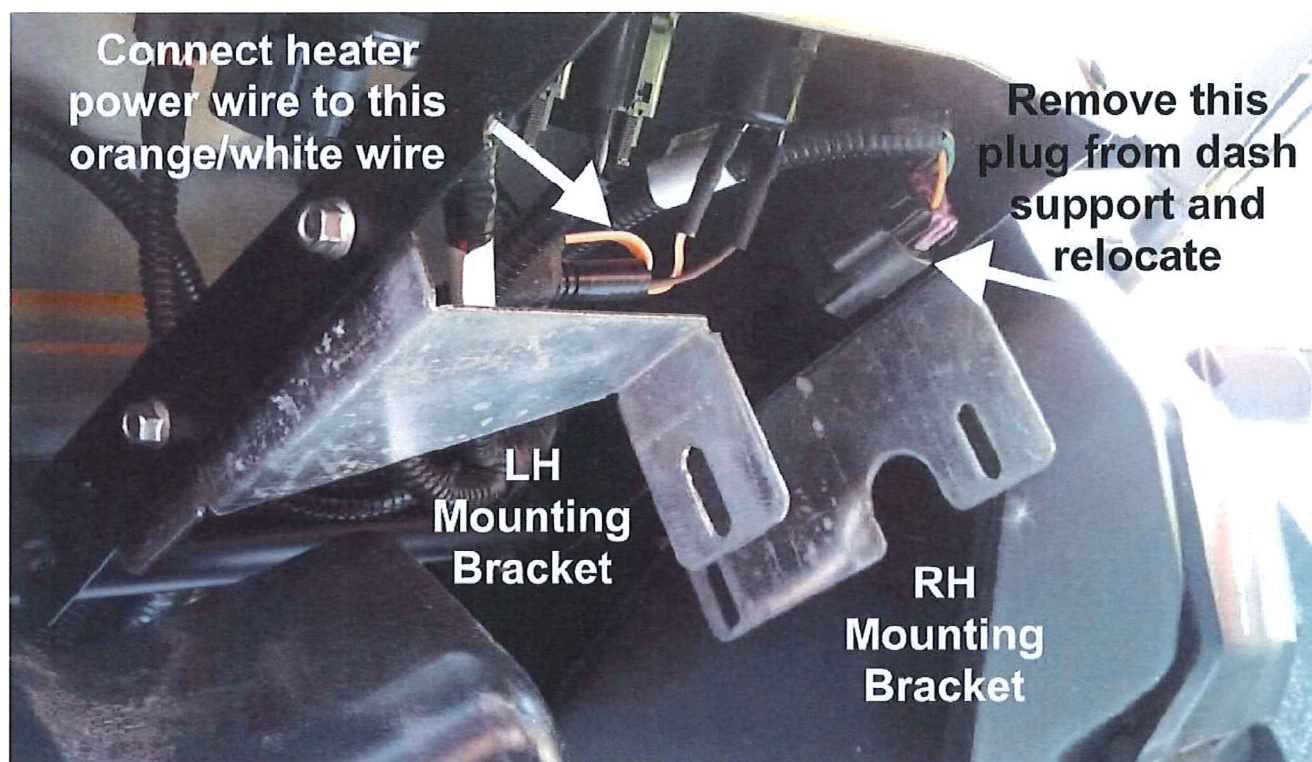

Figure 2
5. Remove the electrical plug from the dash support as shown in Figure 2 and relocate with the supplied Cable Tie.
6. Attach the Red Wire of the included Wiring Loom to the loose orange and white wire shown in Figure 2. To do this, use the Blue Quick Connect included in your kit.
8. Mount LH and RH Mounting Brackets as shown in Figure 2 using the existing holes in the RZR dash support brackets located under the dash.